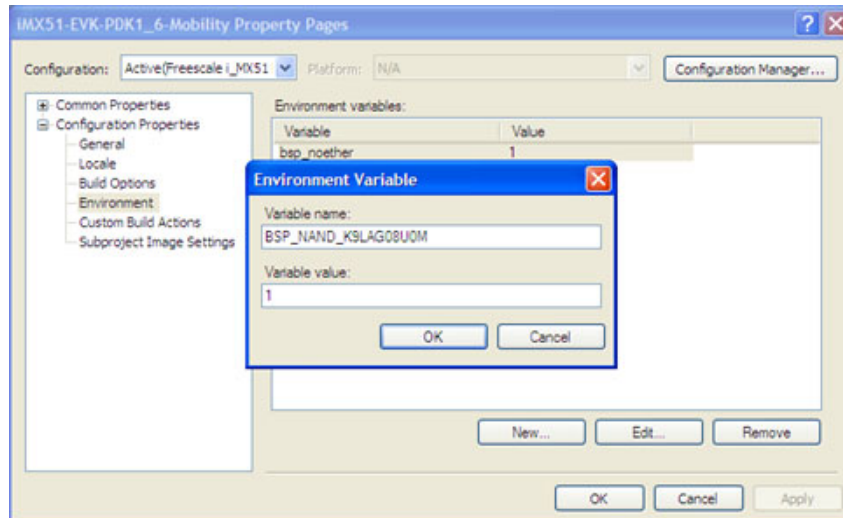

Figure 3. Entering Variable Name and Value
2. In the Variable name field, enter the variable defined in the source file which was modified in step 4 in Section 1.2, “Inclusion of New NAND Flash Models.” In the example shown in Figure 3, the Variable name is BSP_NAND_K9LAG08U0M. The variable value must be equal to 1.